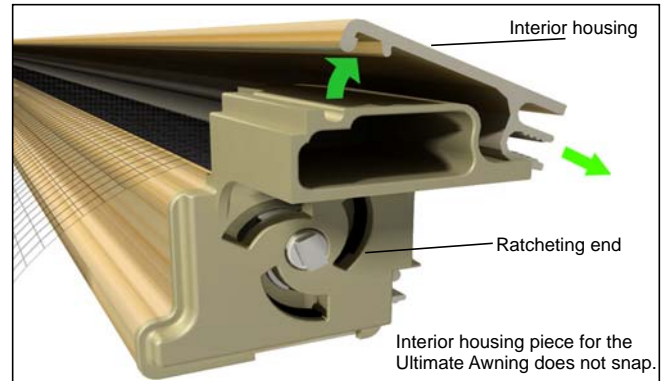

Figure 24 Ultimate Casement parts shown.
2. Remove the interior housing by unsnapping each side and sliding off the ratcheting end. See figure 24.